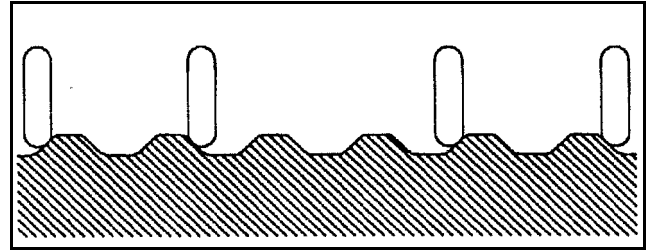

Figure 16. Wheel Position
To compensate for the depth change, move the caster wheels against the side of the outer seed bed (see Figure 16). The wheels will then tend to climb up the side of the seed bed and prevent the flails from hitting the top of the bed.
1. Raise all shredder lift cylinders to maximum lift height. Flip transport locks into position (see Figure 16). Lower cylinder on to transport lock. Make sure all cylinders have bottomed out.